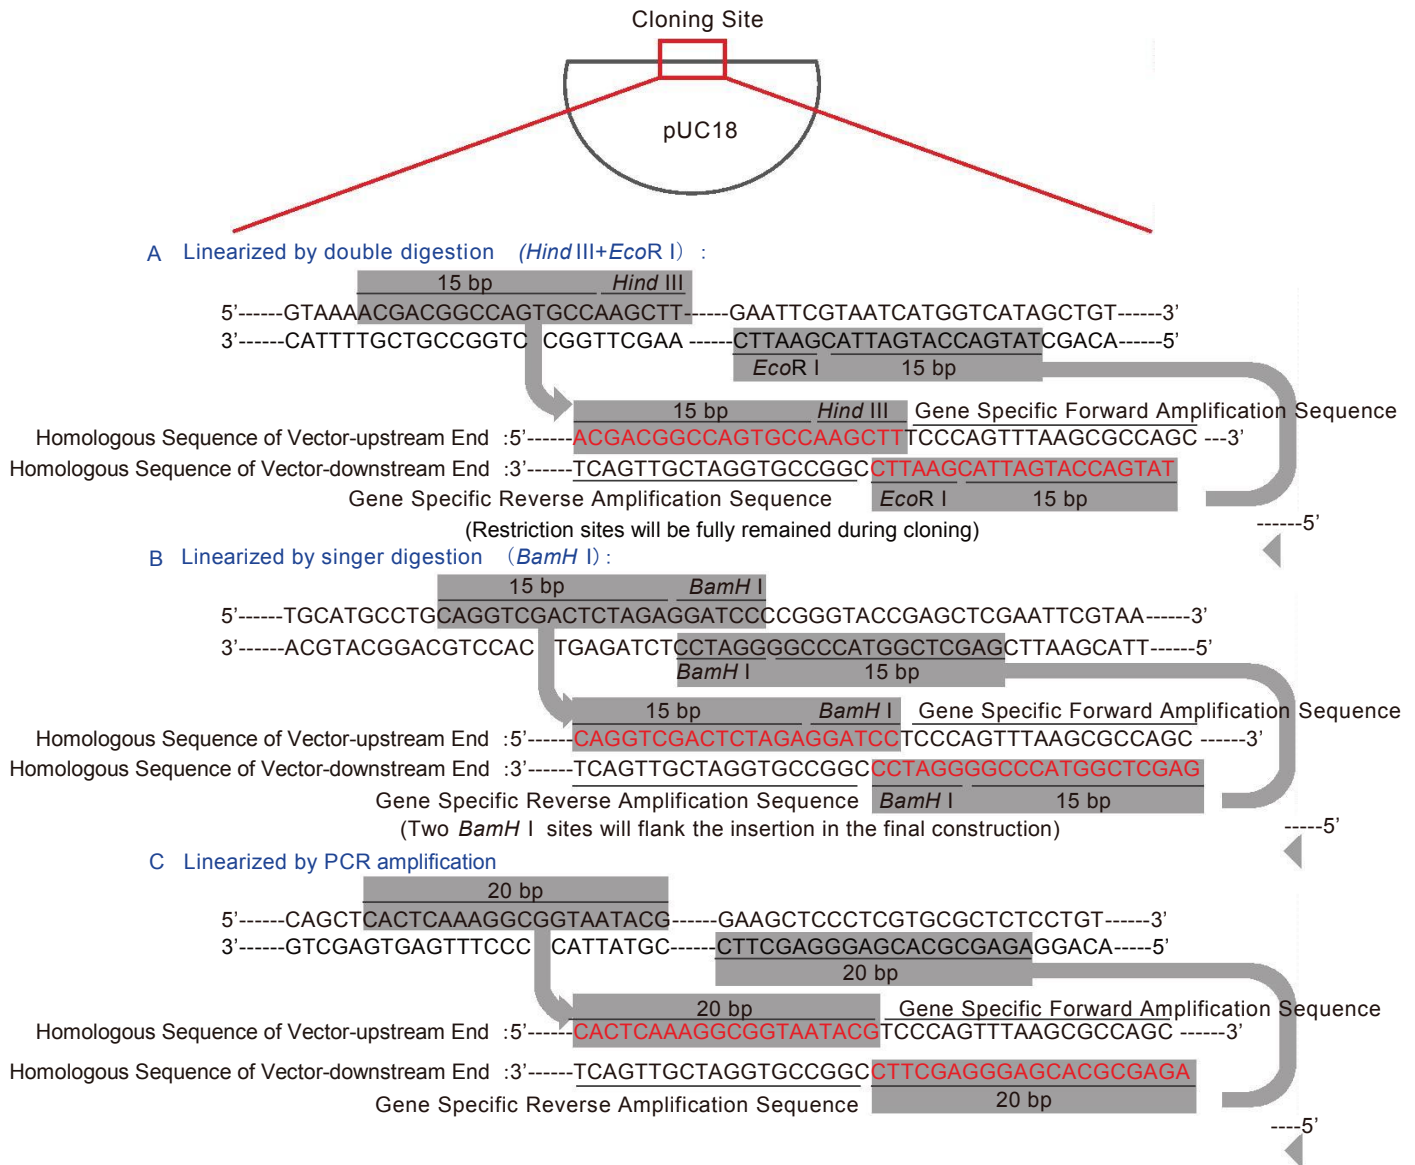

Fig 2. Primer Design for ClonExpress II
- It is recommended to use software, CE Design, to design primers. The CE Design automatically generates amplification primers of insert. You can also design the primers manually. An example is showed in Fig 2.